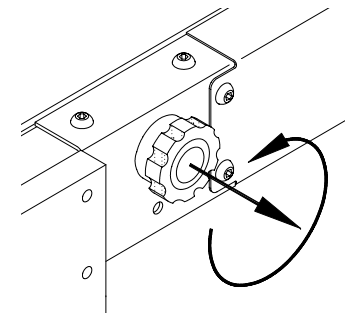

FIGURE 2-14: COUNTER-CLOCKWISE OPENS ROLLSTOP
- 3) Refer to **Figure 2-14**. Pull rollstop control knob out and rotate fully counter-clockwise. Rollstop must lie flat on ground.